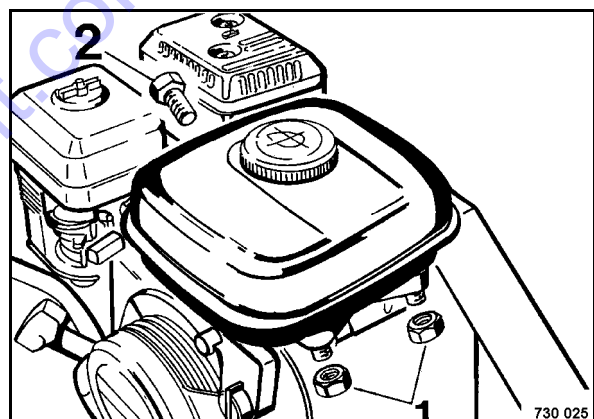

Fig. 64
- Unscrew the hexagon nut (1) (Fig. 64) and the hexagon screw (2) and take off the fuel tank.